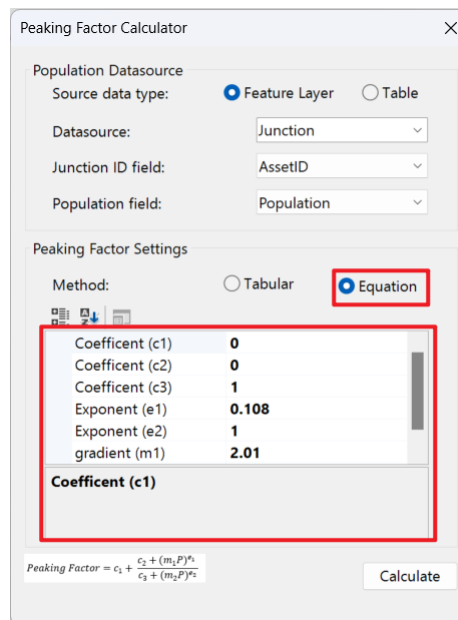

Figure 5: An example of peaking factors based on generic equation.
- **Equation Method:** The equation method allows the user to add peaking factors based on a general exponential equation as shown in **Figure 5**. This generic equation is,